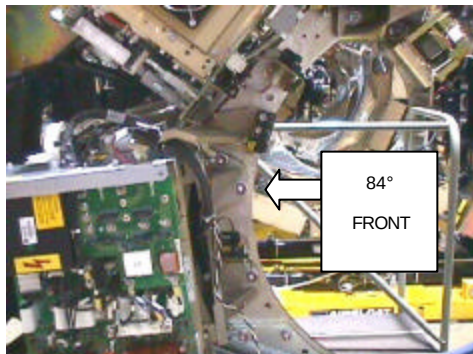

Figure 4
3. Start at the 84° and 276° locations. Refer to figures 4, 5, 6, 7, 8 and 9.